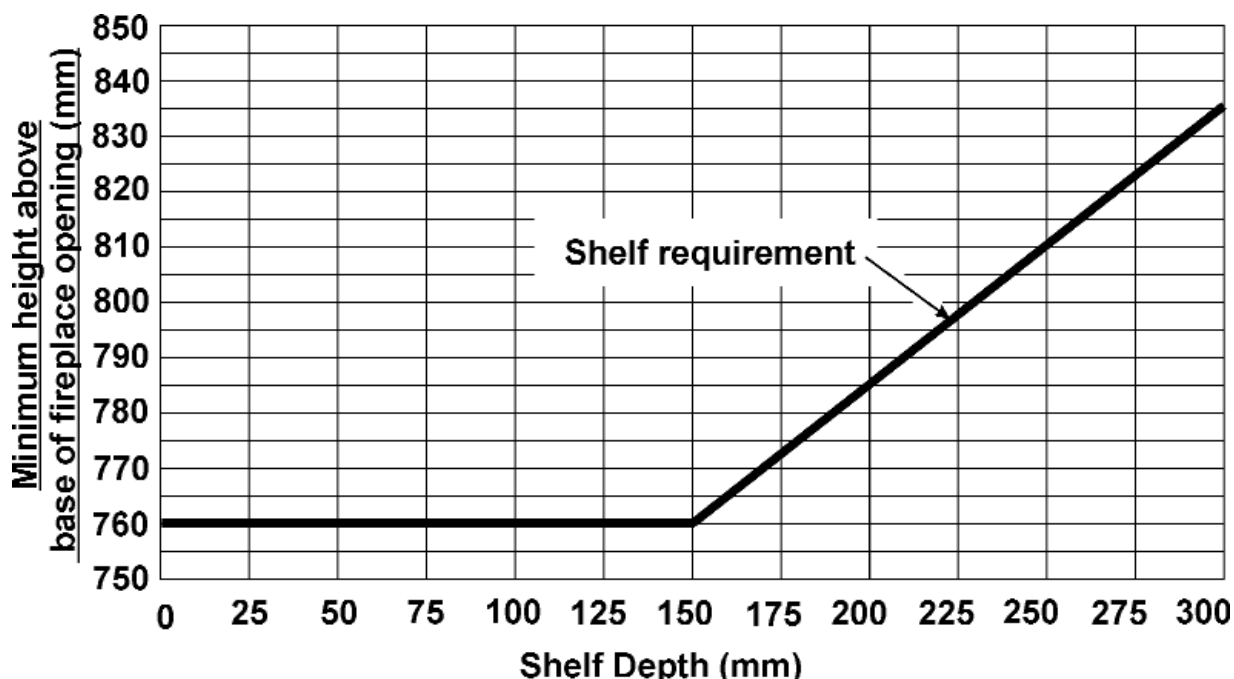

Figure 1. Combustible shelf clearances.
Do provide a minimum clearance as shown in figure 1 above the hearth to any shelf made of wood or other combustible material.
• *For a shelf deeper than 150mm: 760mm + 12.5mm for every 25mm depth over 150mm (See Figure 1).*